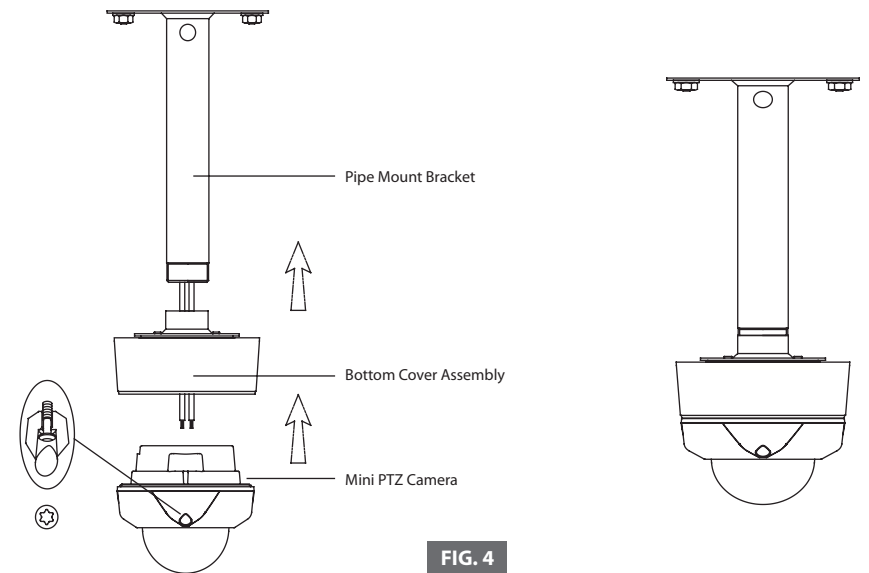

FIG. 4
5. As shown on FIG. 4, after assembling Mini PTZ and bottom cover assembly, drive the pipe mount bracket and fix.